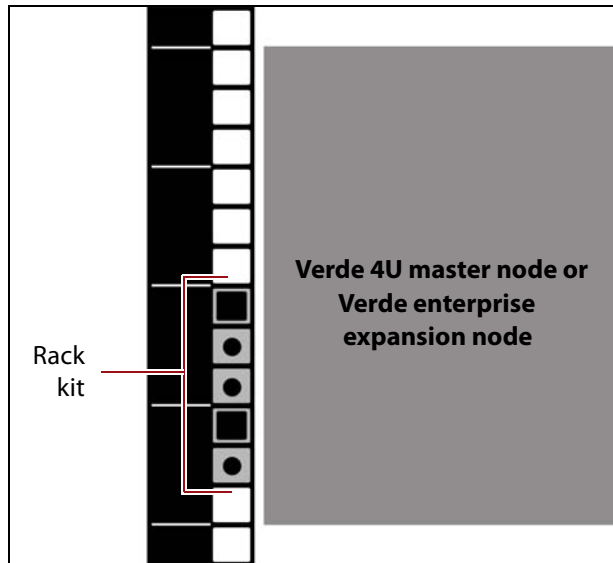
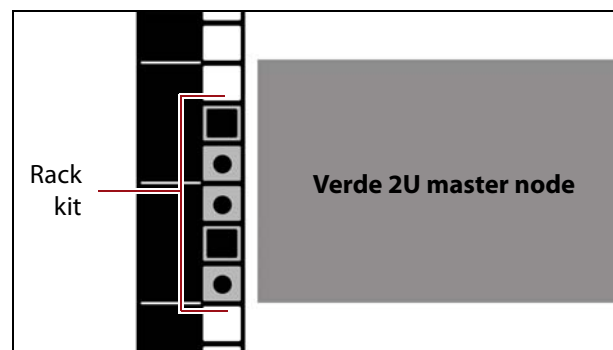

Figure 21 Relationship between rack kit position and the position of the 4U chassis.
Figure 22 Relationship between rack kit position and the position of the 2U chassis.
1. Determine the position of the rack mount kit in the rack. Figure 21 and Figure 22 show the relationship of the rack kit position in the rack and the resulting position of the chassis.